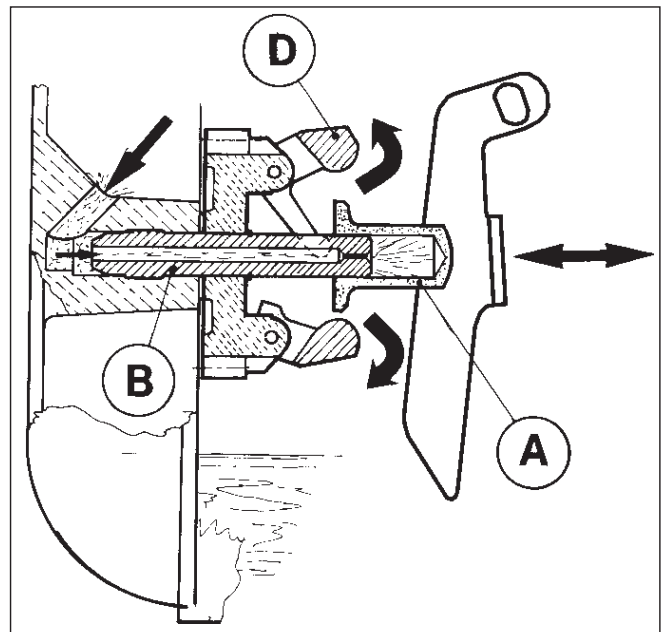

Fig. 9
c) OLEOMATIC GOVERNOR FOR HORIZONTAL ENGINES (FIG 9)
The governor spool (A - Fig. 9) is pushed by the centrifugal masses (D) and slides along the spindle (B) which has holes and allows oil to be drawn inside the spool. This gives a low pressure oil dampening effect which eliminates any slight governor fluctuation. This type of governor is used mainly in generator applications.
Besides the system shown in fig. 9, there is a simpler version with perforated spool.